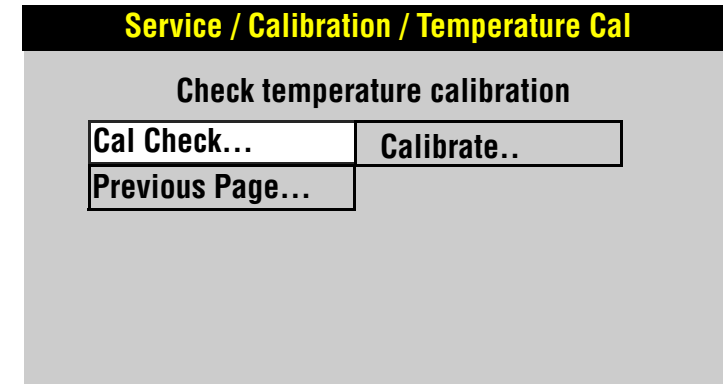

Figure 5.14—Temperature calibration selection
4. Select the Temperature Cal from the Service /Calibration menu. The screen shown in Figure 5.14 appears.